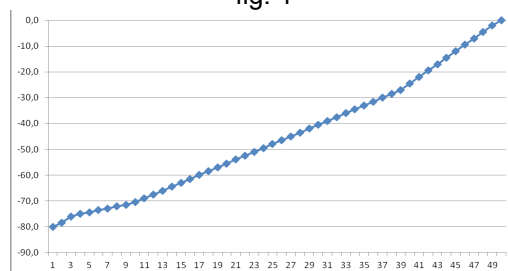

fig. 2
2. Volume Scale #2 – This setting is thought for hi efficiency loudspeaker (fig. 2)